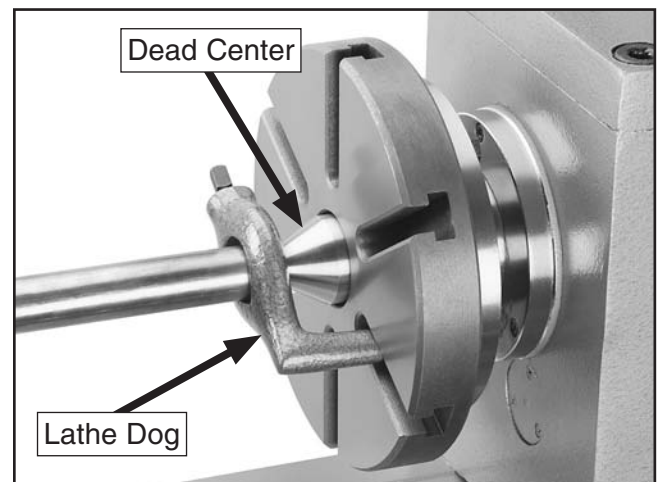

Figure 36. Example of using a dead center with a faceplate and lathe dog.
When mounting the workpiece between centers, install a lathe dog on the spindle end of the workpiece and insert the tail of the dog into the chuck or faceplate to keep the workpiece and center rotating together during operation (see **Figure 36** for an example).
5. Install a lathe dog on the workpiece, then mount the workpiece between the spindle and tailstock centers with the tail of the lathe dog inserted into the chuck or faceplate (see **Figure 36** for an example).